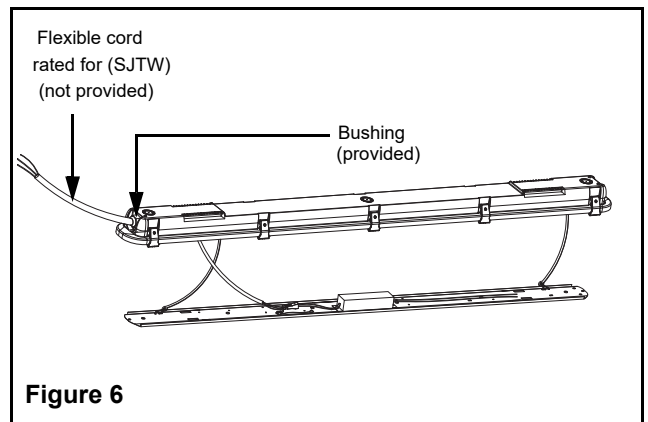

Figure 6
1. Run AC Flexible cord rated for (SJTW) (not provided) into the installed bushing. Leave sufficient wire length inside the unit to reach the connection wires (see fig.6).